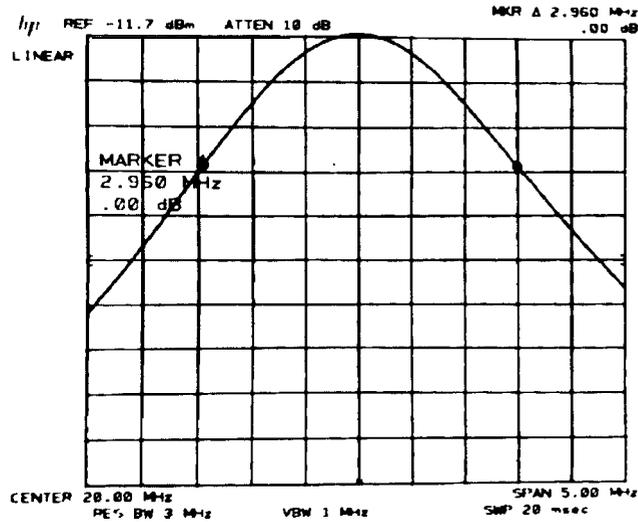

Figure 2-6. Resolution Bandwidth Measurement
7. Press MARKER **(Δ)** and position movable marker 3 dB down from the signal peak on the negative going edge of the trace (the MARKER A amplitude readout should be $.00\text{ dB} \pm 0.05\text{ dB}$). The 3 dB bandwidth is given by the MARKER A frequency readout (see Figure 2-6). Record this value in Table 2-8.